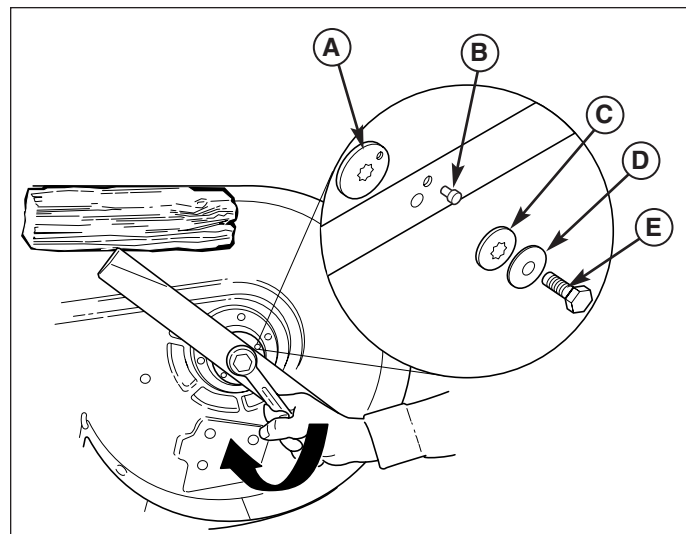
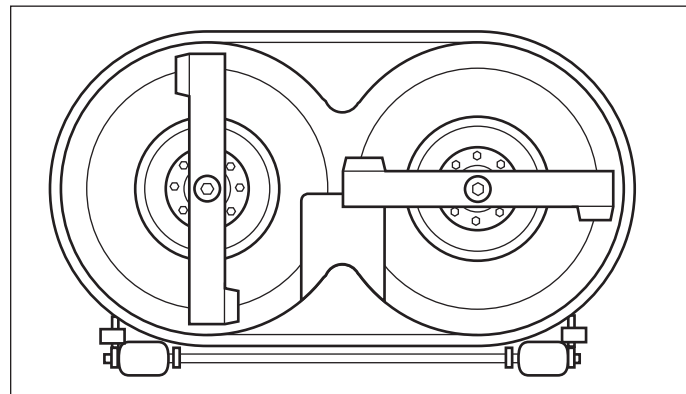

Figure 25. Installing The Blade
Figure 26. Blade Timing
4. Install the new blades with the lift tabs pointing up toward deck (Figure 25). Secure with a capscrew (E), spring washer (D), spline washer (C), and alignment pin (B) (be certain the spline washer is aligned with the shaft). Use a wooden block to prevent blade rotation and torque capscrews to 45-55 ft.lbs. (61-75 N.m.).
5. Check that the mower blades are timed perpendicular to each other (see Figure 26). If not, remove the blade and rotate the adapter (A, Figure 25).
2. Check that the mower blades are perpendicular to each other (Figure 26). If not, remove the blade and rotate the adapter (A, Figure 25) using the procedure outlined in Servicing the Mower Blades